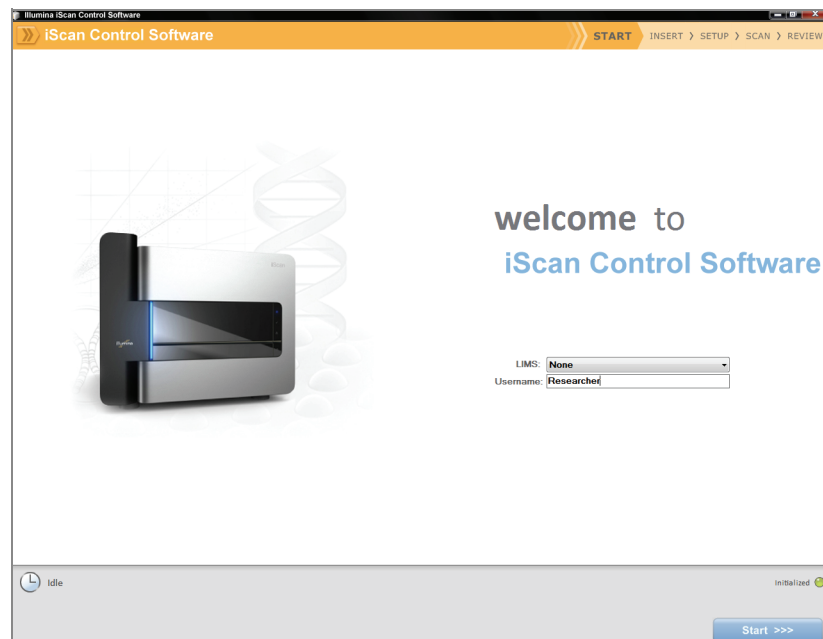

Figure 201 Welcome Window
3. (Non-Illumina LIMS) Set the **LIMS** dropdown list to **None** and enter your Windows user name (Figure 201).